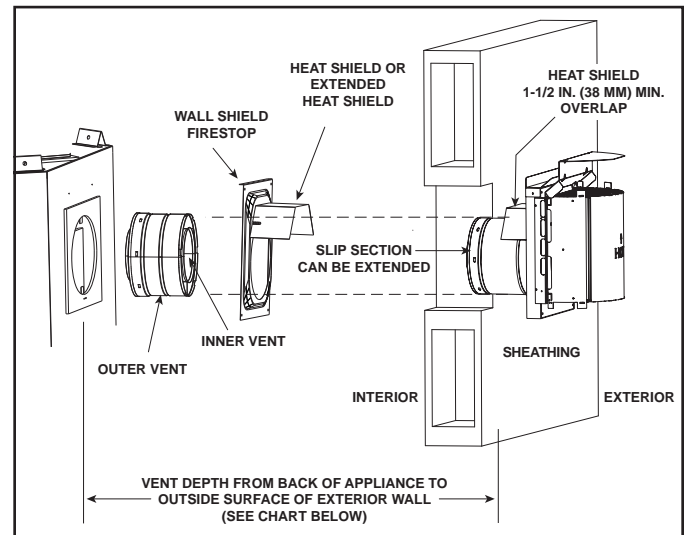

Figure 10.14 Venting through the wall
- **DO NOT** remove the heat shields attached to the wall shield firestop and the horizontal termination cap shown in Figure 10.14.
There are two sections of the heat shield. One section is factory-attached to the wall shield firestop. The other section is factory-attached to the cap. See Figure 10.14.